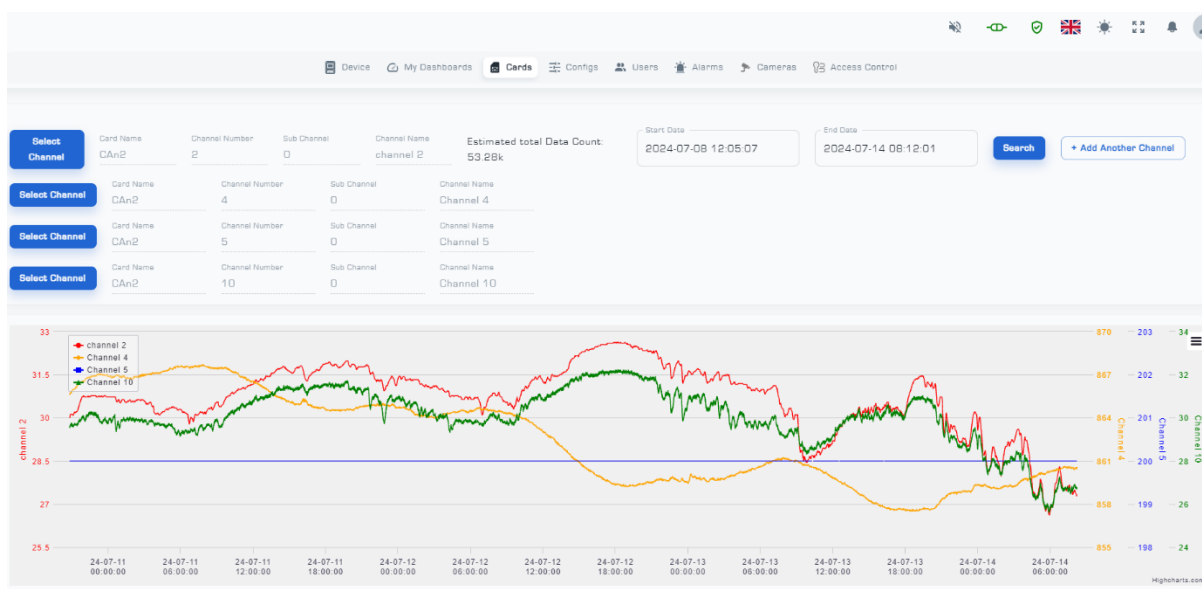

Figure 48: An example of data sent by the Nodes
■ The 'Report' submenu displays data sent by each Node or sensor in graphical form and allows you to increase the number of sensors to up to four. To do this, you can select the desired channel and sub-channel by choosing 'Select Channel' and view the output of that sensor. Additionally, by selecting the '+ Add Another Channel' option, you can gather data from up to four sensors simultaneously. Finally, you can save the results as images in PNG, JPEG, CSV formats, or as a PDF file (Figure 48).